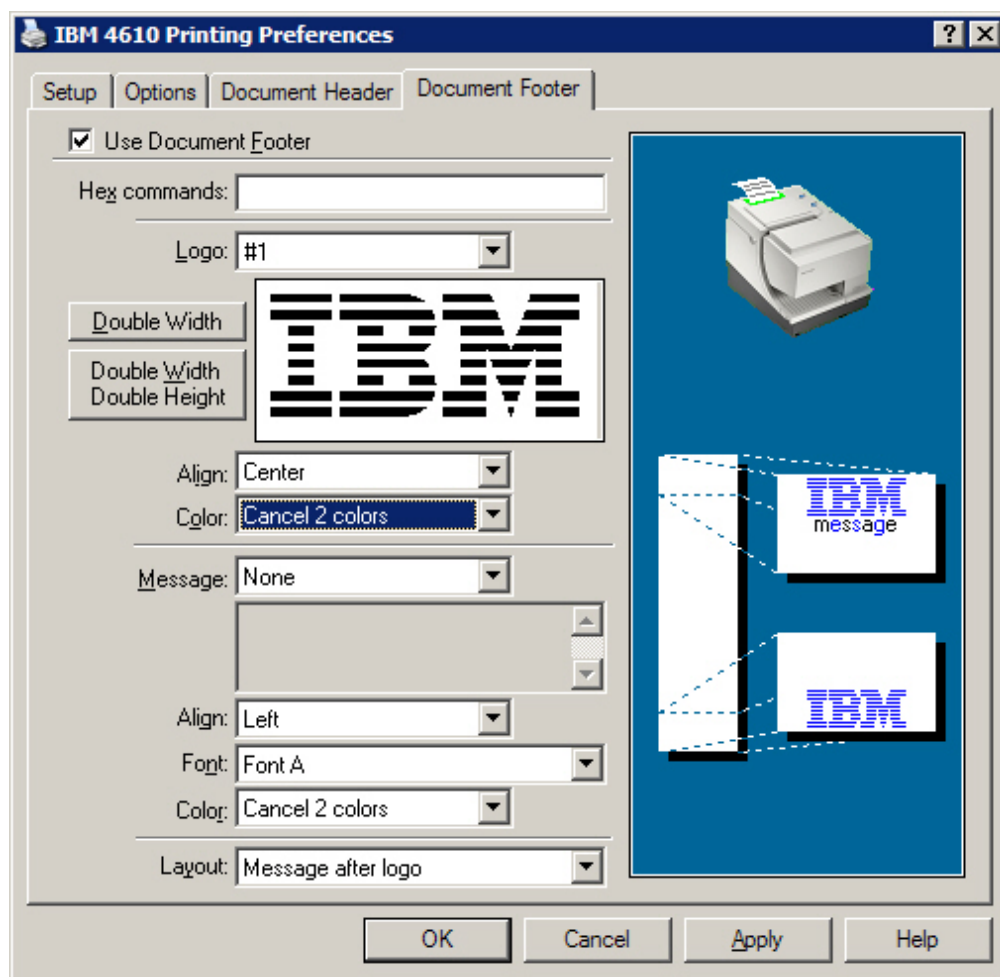

Figure 25. Selecting a footer logo
6. To specify a logo (see Figure 25):